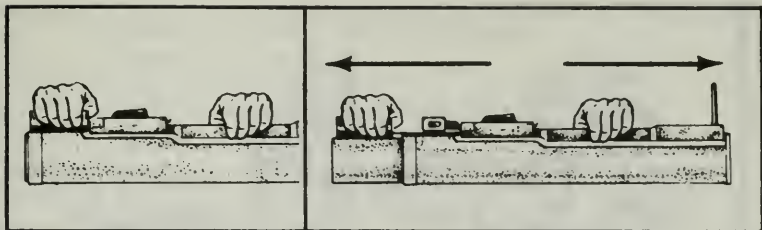

Figure 160.
b. Extend the launcher by grasping the rear sight cover (Figure 160) and sharply pulling the launcher to the rear until locked in position (Figure 161). Attempt to collapse the launcher by reversing the motion of your hands to verify it is locked in position.